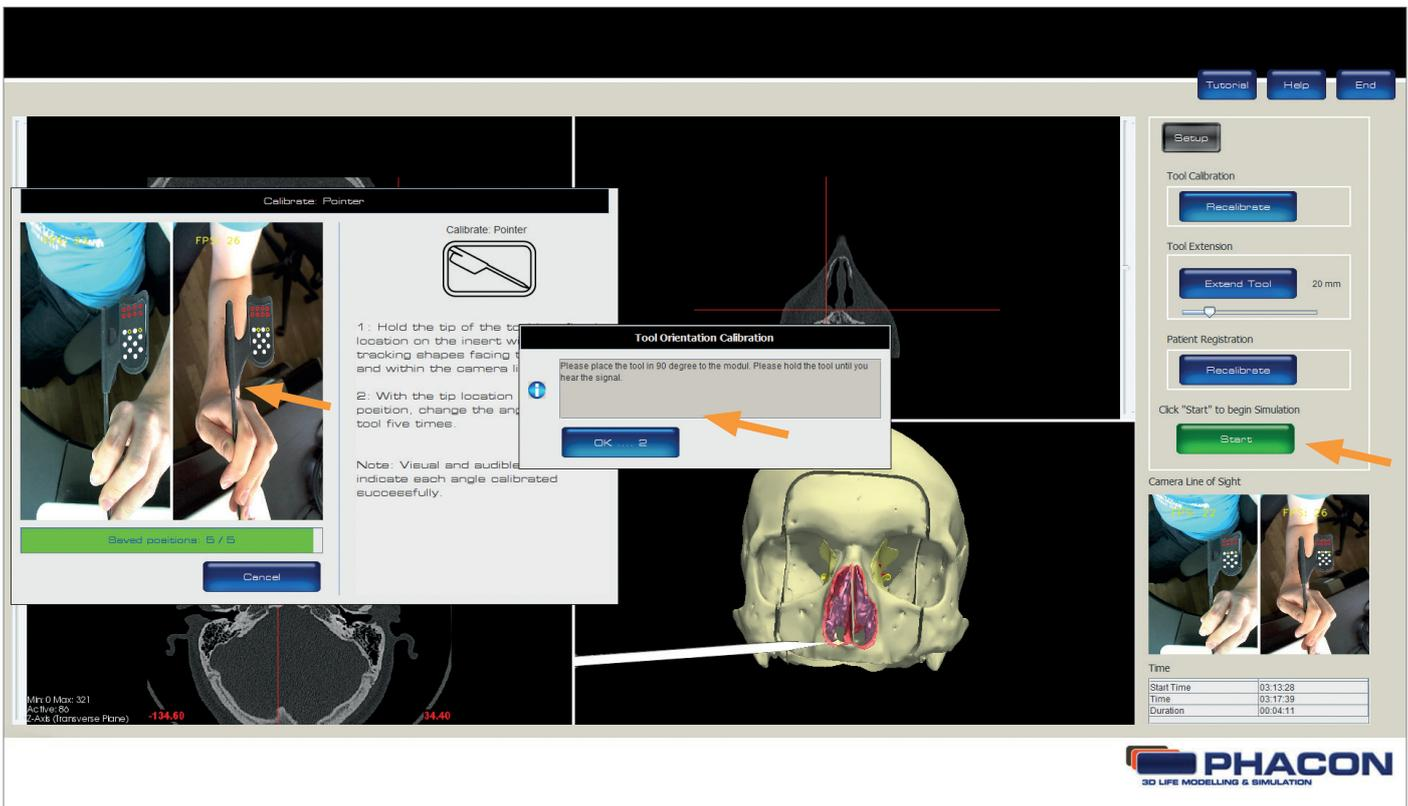

Fig.: 7
6. Hold the tool perpendicular to the Patient to perform the direction calibration (*Fig. 7*). An INFORMATION MESSAGE pop-up will appear to indicate the successful completion of the calibration procedure. (*As shown in the 3D Scene*)